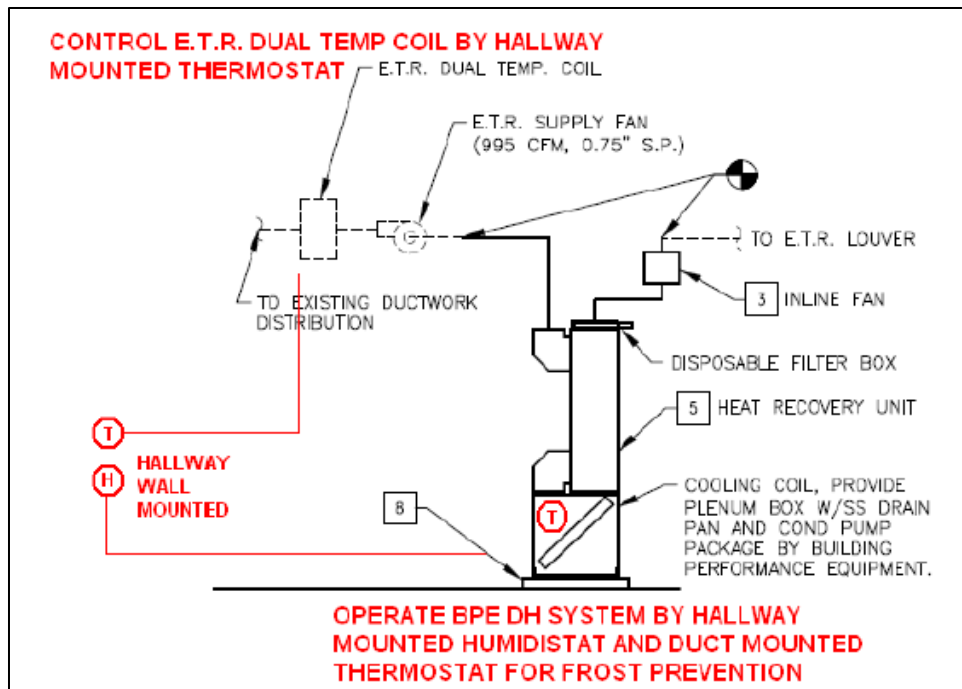

Figure 2 - A detail for the control modules of the latent only system to prevent frost
Figure 2 illustrates a detail of a run around latent only system with a direct expansion coil (DX), rather than a chilled water system for cooling. To solve this issue of coil freeze-up, BPE recommends installing a temperature loop which controls the operation of the refrigerant. When supply air falls below a certain temperature, refrigerant supply will terminate but airflow will continue. This process allows return air to warm up the coil thereby preventing any frost. This is engineered to provide latent only cooling – reduce relative humidity of air within a space without effecting temperature.